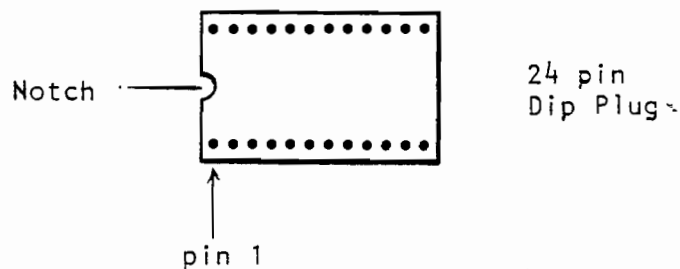

FIGURE 4
6. Plug in the 24 pin DIP plug connector into the keyboard connector socket on the video board. Note correct pin orientation as shown in Figure 4.